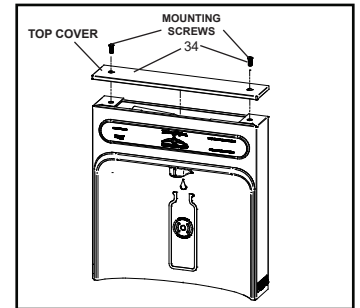

Figure 3
1. Remove two (2) screws holding top cover to bottle filler with a 5/32" (4mm) Hex Key (See Figure 3). Remove top cover. Note: Do not discard screws; they will be needed to re-install top cover.
8. With the power cord, wires, and waterline through the hole on top of water cooler place bottle filler on three (3) angled tabs protruding from the wall mounting plate installed on wall. Make sure round boss in gasket fits in hole of basin.
9. Once bottle filler is installed on wall plate tabs, waterline, wires, and power cord are installed properly, push top of bottle filler toward wall and line up two (2) holes on top cover.
10. Re-install top cover on bottle filler (see Figure 3) with two (2) mounting screws from step 1 above. **Caution:** Do not over-tighten screws.